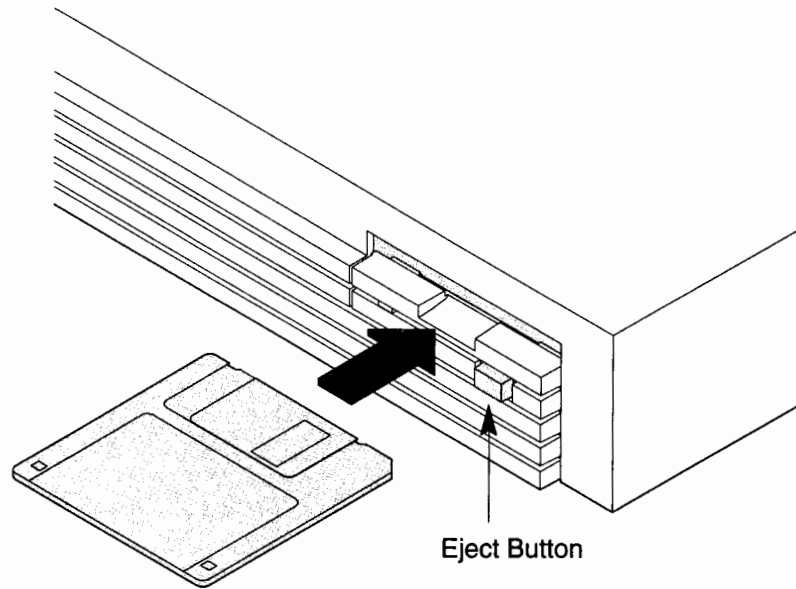

Figure 5-2. Inserting and Removing a Floppy Diskette
1. Insert the diskette into the drive, as shown in Figure 5-2.
3. To remove the diskette, push the eject button (see Figure 5-2), then take out the diskette.